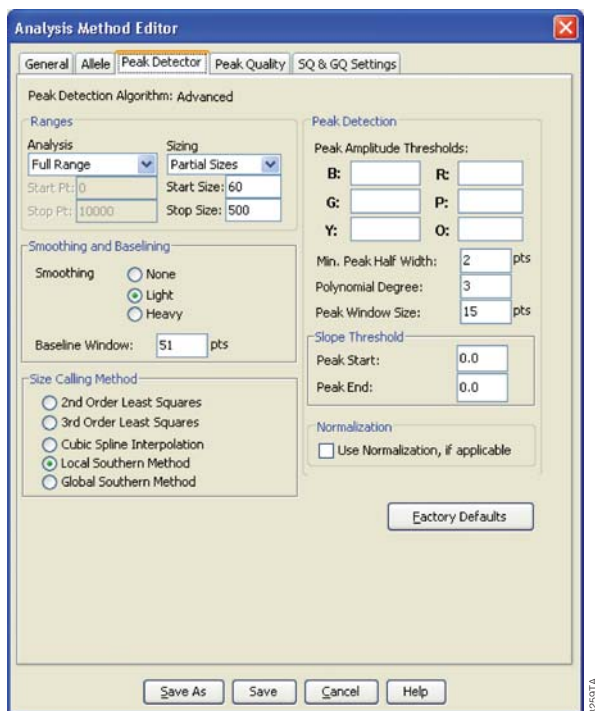

Figure 14. The GeneMapper® ID-X Peak Detector tab.
10. Select the Peak Detector tab (Figure 14). You will need to optimize these settings. In-house validation should be performed.
9. Select the Peak Detector tab (Figure 14). You will need to optimize these settings. In-house validation should be performed.